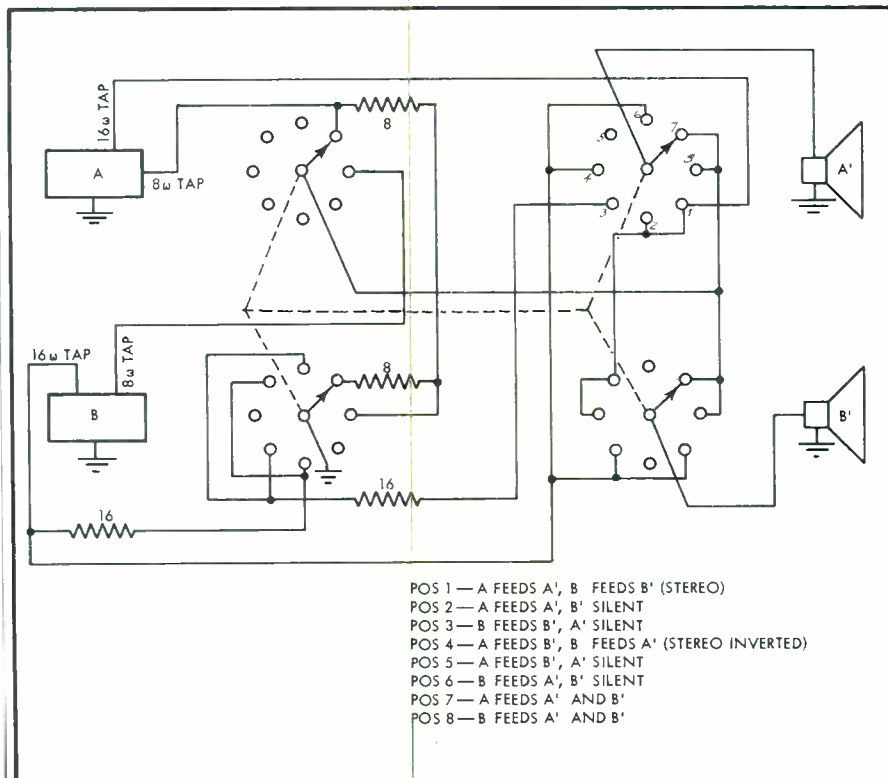

Fig. 1.
A. Figure 1 shows a circuit which, when constructed, will function as you desire. No further explanation need be given.